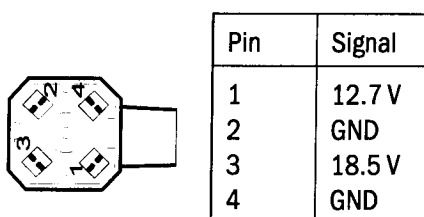
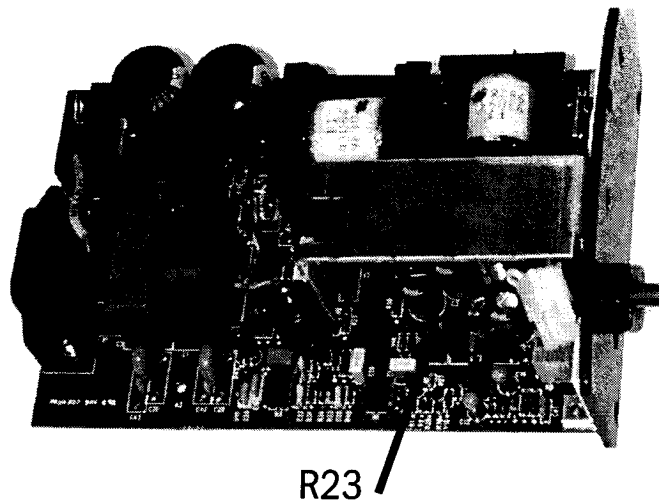

Figure 1 Power adapter's voltages
Figure 2 Adjustment trimmer R23 in N-LPOW
- Connect the power cord to the power adapter and check the supply voltage from the power adapter's connector. PIN 1 voltage must be 12.7 V without load (Figure 1), If necessary adjust the 12.7 V with trimmer R23 (Figure 2).